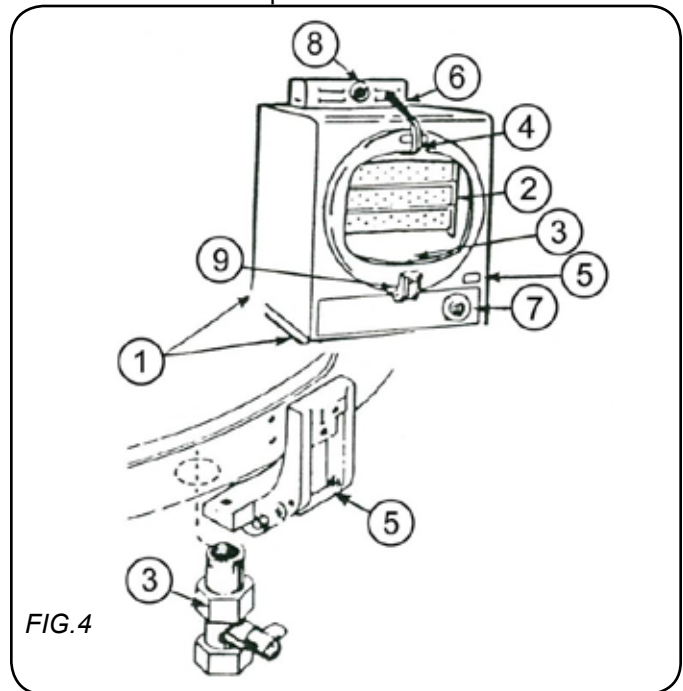

FIG. 4
Before making this checkout the operator must be thoroughly familiar with the operating procedures in Section 3 and with the function of each control described in principles of operation in Section 3. Reference Figure 4 for identification of controls required in the following procedures. If the unit fails to perform as described below, con-
2. Close drain valve (fig. 4, No. 3) by turning valve handle Clockwise.
3. Hang pan supports (fig. 4, No. 2) on pan support studs (cylinder side walls). The horizontal keyhole on the support should be at rear or compartment and vertical keyhole near front.
1. Close door and lock in position by placing door handle tongue (Fig. 4 No. 4) under roller on drain casting (Fig. 4 No. 5) press downward on door handle until door is secured
2. Set minute timer (Fig. 4 No. 7) to 5 minutes by turning past 10 and back to 5 to ensure proper setting. Indicator light will come on.
3. When preheating is ended (approximately 5 minutes) and buzzer sounds. turn timer to OFF and allow pressure to return to 0 PSI on pressure gauge (Fig. 4 No. 8).
4. Open compartment door slightly by pulling up on latch handle (fig. 4. No. 6) to allow remaining vapor to escape before raising door to full open position.
2. Close the door and lock in position by placing the door handle tongue under the roller on the drain casting (refer to figure 4). Press downward on the door handle until the door is secured.